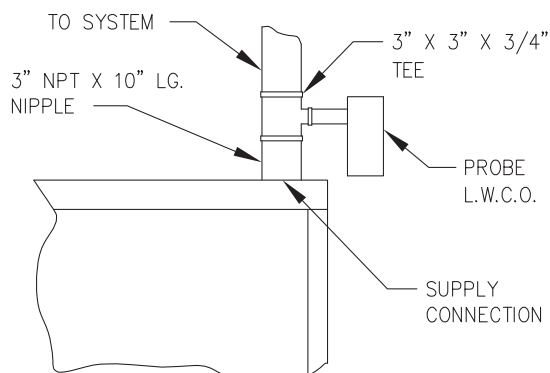

Figure 6.3 Probe Low Water Cut-off Piping
- b. If a probe-type low water cut-off is used it should be piped into the boiler supply piping as shown in Figure 6.3.